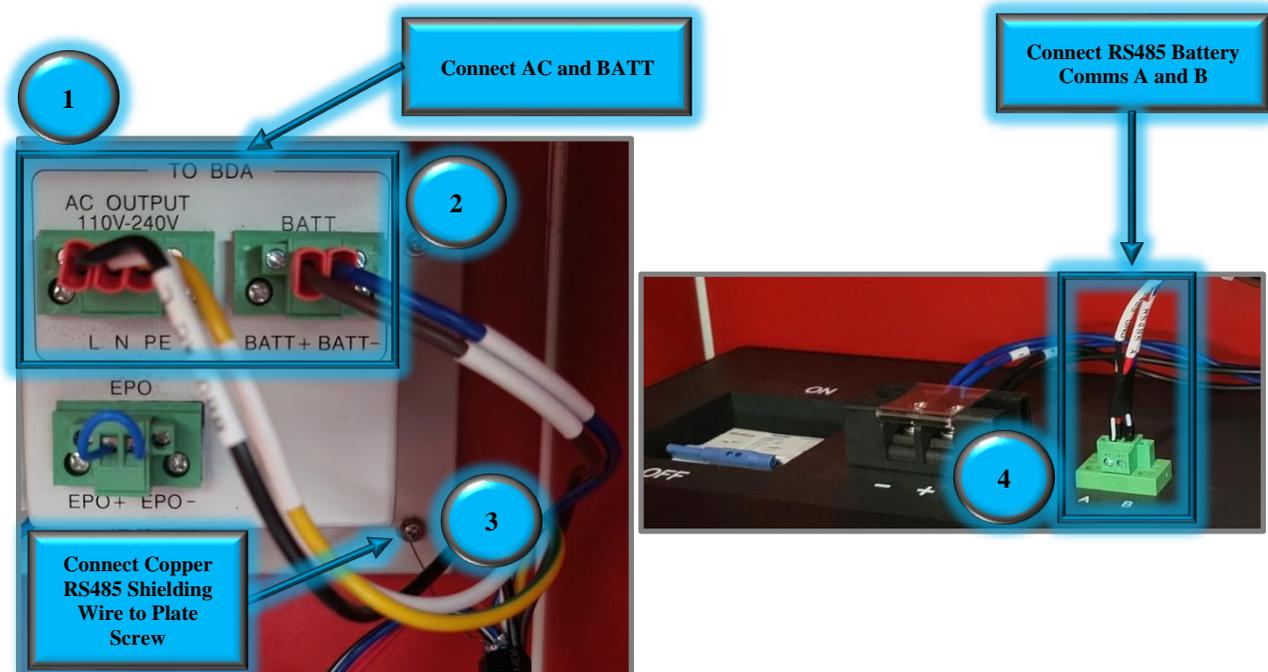

Figure 39: Hybrid Cable Connection in BBU
- Connect the connectorized end of the Hybrid cable to the BBU as shown in Figure 39 below.